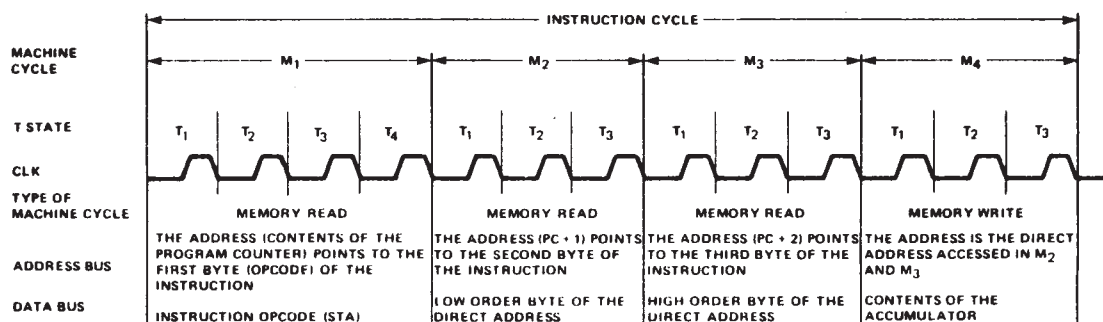

Figure 7-8 CPU TIMING FOR STORE ACCUMULATOR DIRECT (STA) INSTRUCTION
Each READ or WRITE operation of the 8085A is referred to as a machine cycle. The execution of each instruction by the 8085A consists of a sequence of from one to five machine cycles, and each machine cycle consists of a minimum of from three to six clock cycles (also referred to as T states). Consider the case of the Store Accumulator Direct (STA) instruction, shown in Figure 7-8. The STA instruction causes the contents of the accumulator to be stored at the direct address specified in the second and third bytes of the instruction. During the first machine cycle (M_1), the CPU puts the contents of the program counter (PC) on the address bus and performs a MEMORY READ cycle to read from memory the opcode of the next instruction (STA). The M_1 machine cycle is also referred to as the OPCODE FETCH cycle, since it fetches the operation code of the next instruction. In the fourth clock cycle (T_4) of M_1 the CPU interprets the data read in and recognizes it as the opcode of the STA instruction. At this point the CPU knows that it must do three more machine cycles (two MEMORY READs and one MEMORY WRITE) to complete the instruction.